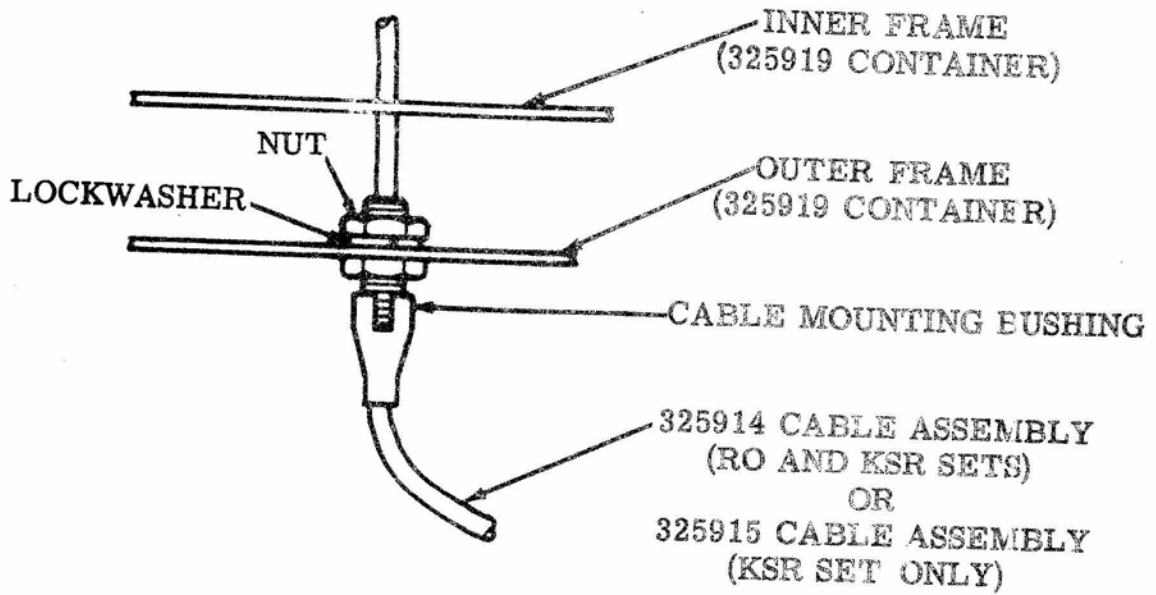

Figure 5 - Cable Assembly Mounting
- (b) Refer to 8328WD, sheet 1, and insert the 325914 cable assembly through the right 326731 bushing into the electrical service assembly. Remove the nut and lockwasher from the mounting bushing on the cable assembly, but retain them on the cable. Insert the nut and lockwasher while still on the cable wire through the left keyhole slot in the outer frame of the 325919 container assembly so that the terminals on the cable extend through the eyelet in the inner frame of the container. Reassemble the lockwasher and nut back on the mounting bushing, and fasten the cable assembly by means of the mounting bushing to the outer frame of the containers. (Refer to Figure 5.) Continue routing the 325914 cable assembly along the upper right corner of the inner frame to the bottom terminal block (TC). Remove the two screws and lockwashers that fasten the terminal block cover and upper insulator to the upper terminal block. Remove the two posts and lockwashers that fasten the upper terminal block and insulator to the lower terminal block. Move the upper terminal block and its attached wire leads to the left so that the bottom terminal block (TC) is accessible. Connect the 325914 cable assembly to the bottom terminal block according to 8328WD sheet 1 and 8330WD sheet 3.
through the eyelet in the inner frame of the container. Reassemble the lockwasher and nut back on the mounting bushing and fasten the cable assembly by means of the mounting bushing to the outer frame of the container. Refer to Figure 5. Continue routing the 325915 cable assembly along the upper right corner of the inner frame to the bottom terminal block (TC). Connect the cable to the bottom terminal block in accordance with 8328WD sheet 4, and 8330WD sheet 3. Reassemble the upper terminal block and insulator to the lower terminal block. Reassemble terminal block cover and upper insulator after the external signal lines have been connected.